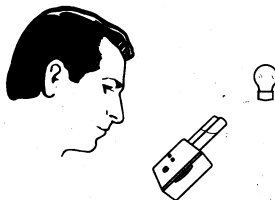

FIGURE 2
6. Orient the comparator with the tube tops pointing to a window or light source as in Figure 2. View through the openings in the front of the comparator. When viewing, use care to not spill samples from unstoppered tubes.